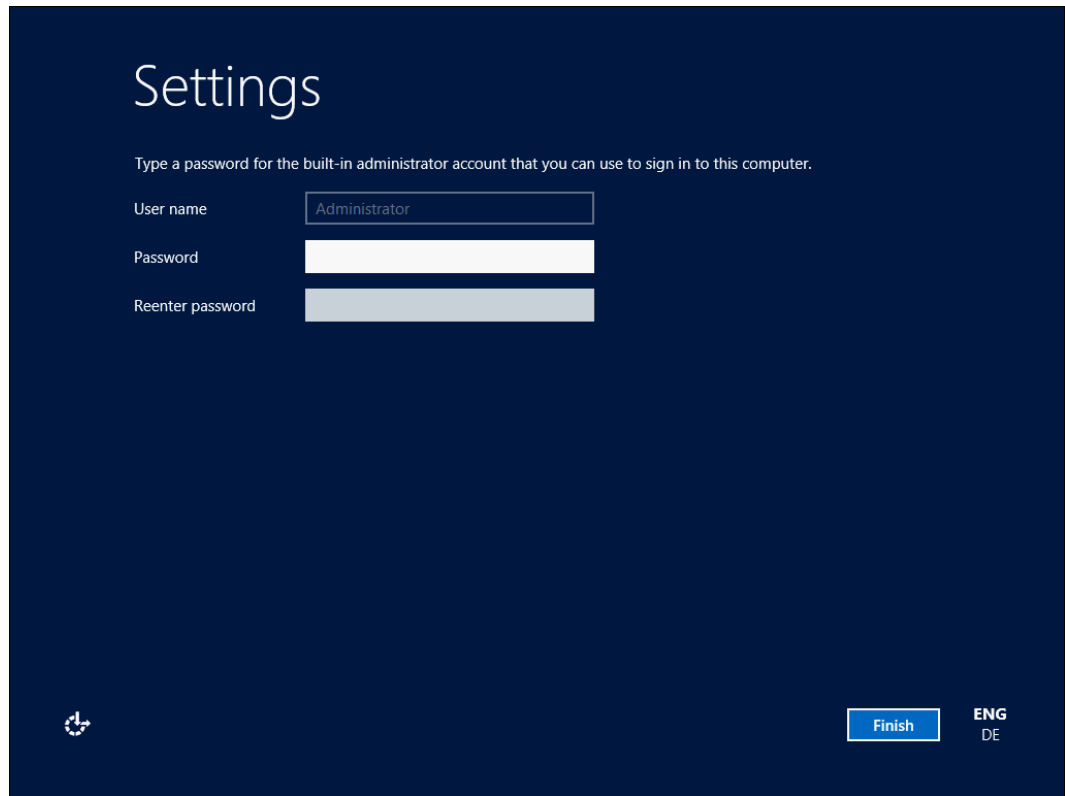

Figure 9-67 Password prompt after installing Windows
- When Windows is done installing and you are prompted to enter a password (Figure 9-67), click **OK**, and then enter your password.